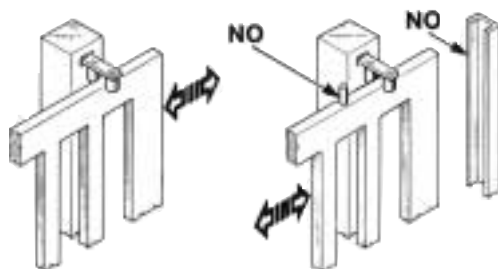

Fig. 3
- Gate columns shall have anti-derailment guides on their top (Fig. 3), to avoid the unintentional gate release.
N.B.: Eliminate those mechanical stops of the kind described by figure 3. No mechanical stop shall be on top of the gate, since mechanical stops are not safe enough.